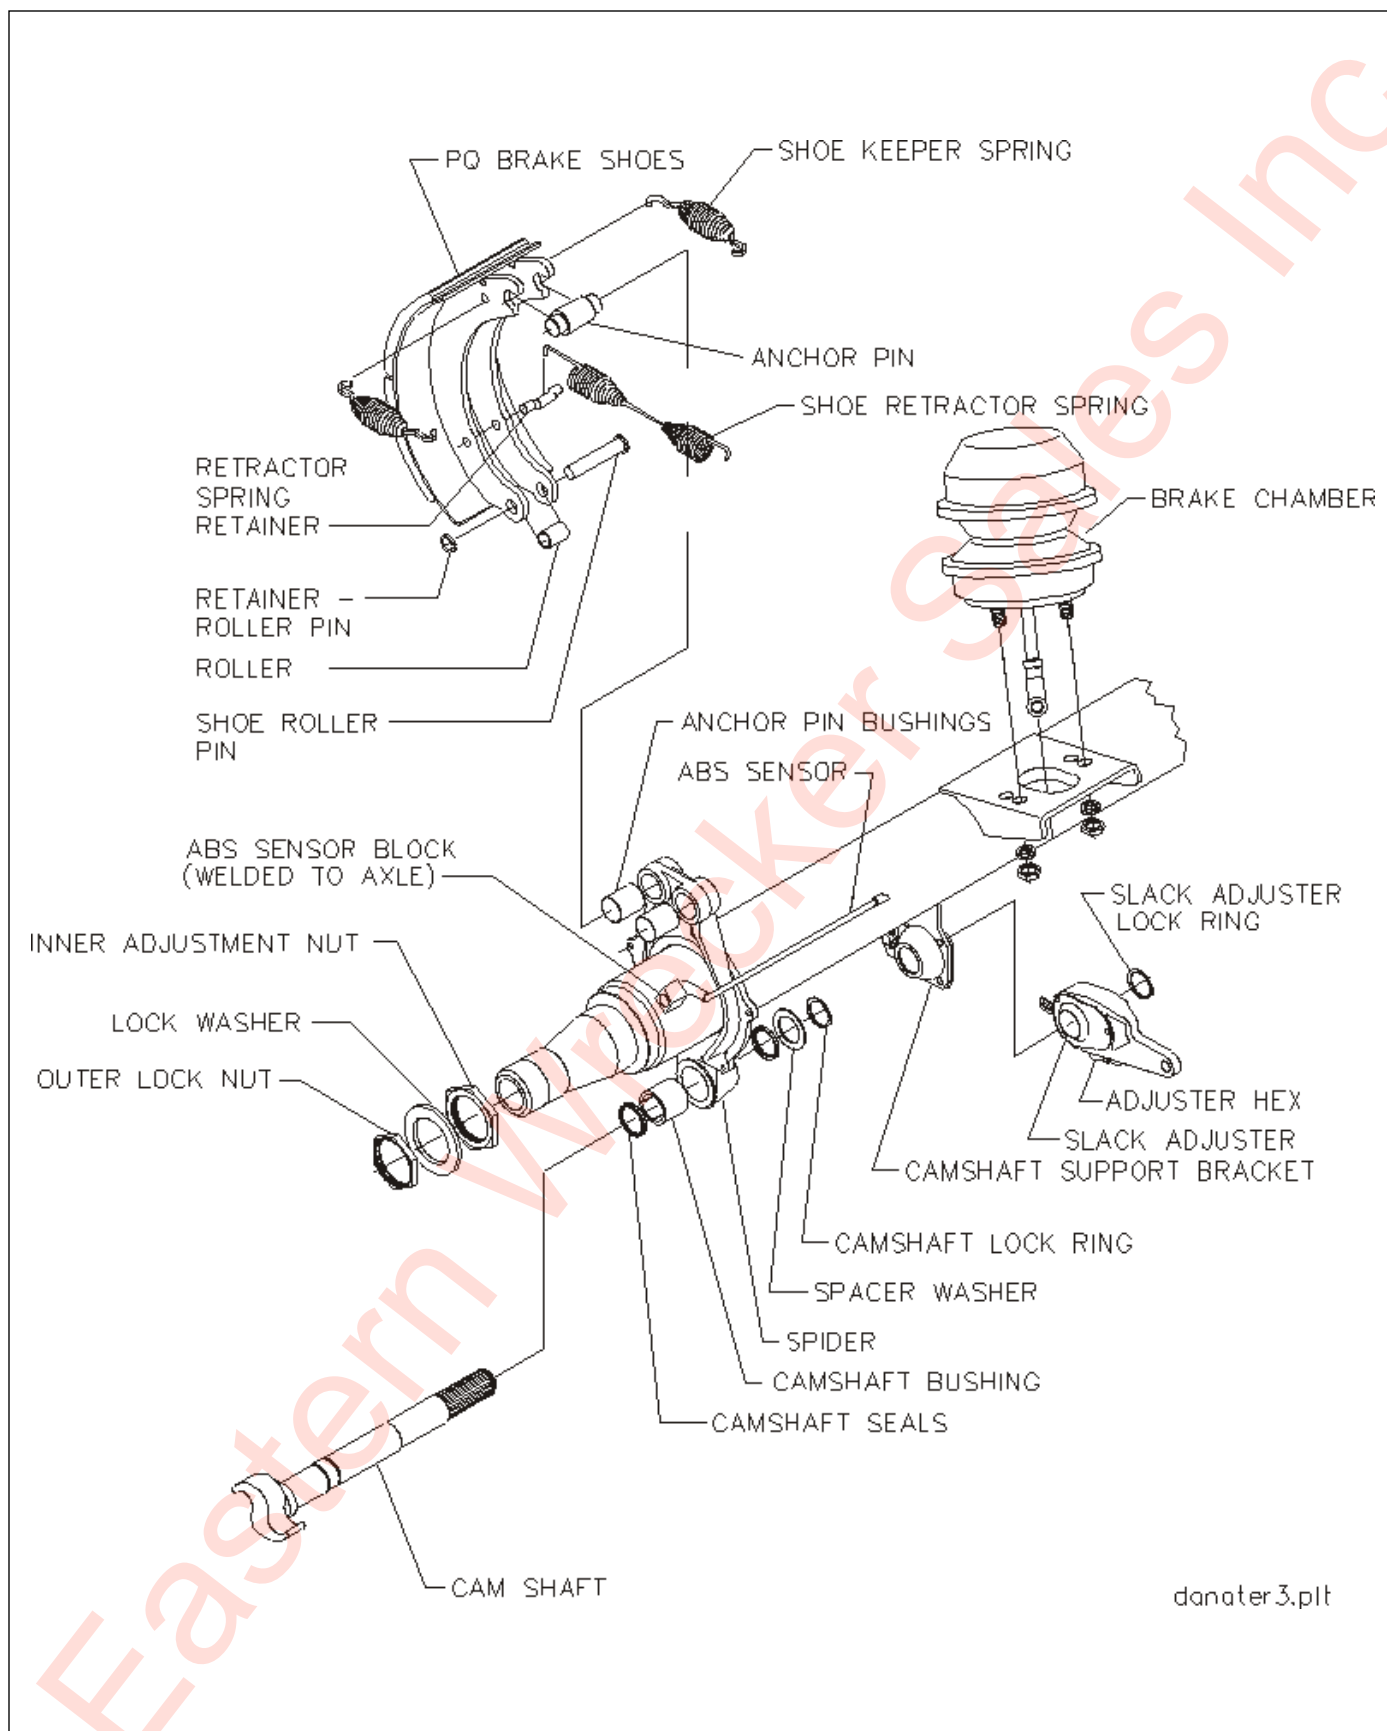

Figure 4-9: Axle and Brake Assembly
4. Disconnect the slack adjuster from the connecting rod by removing the clevis pin (**See Figure 4-9.**)
Disassembly (See Figure 4-9.)